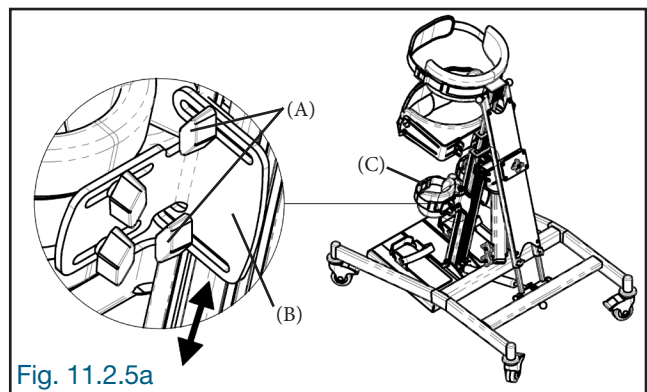

Fig. 11.2.5a
Loosen the locking knobs (A) of the knee stop support (B) and adjust the height of the knee stops (C). Then, tighten the locking knobs (A) firmly (Fig. 11.2.5a).